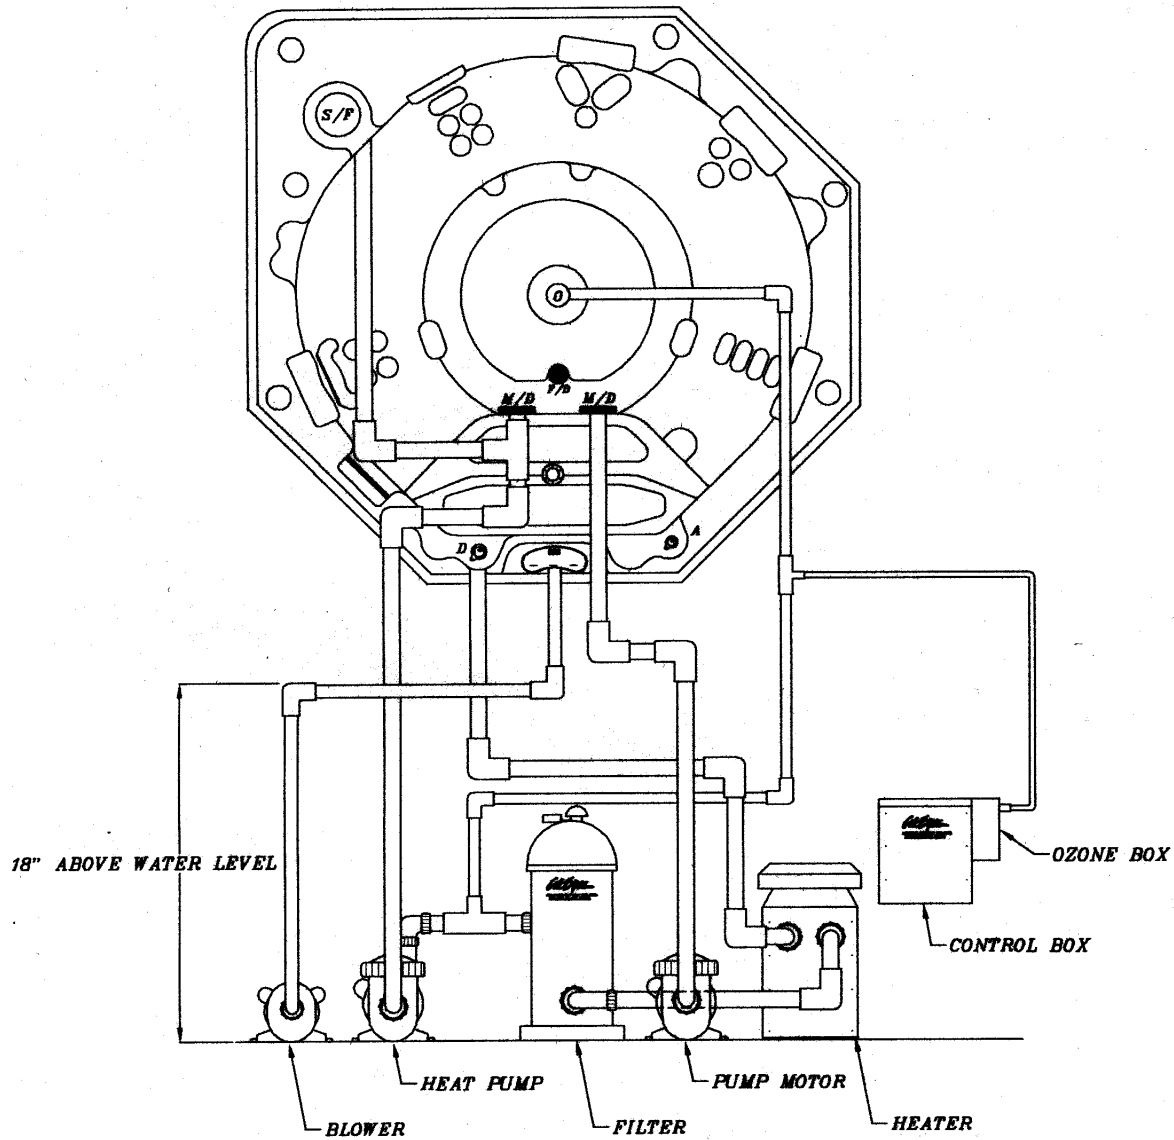

Figure 12. AUX freeze sensor locations
1. Using a large wire tie strap or zip tie, secure the sensing disk to the booster pump or heater manifold at the lowest metallic point possible.(See Figure 12 for part identification and installation location)